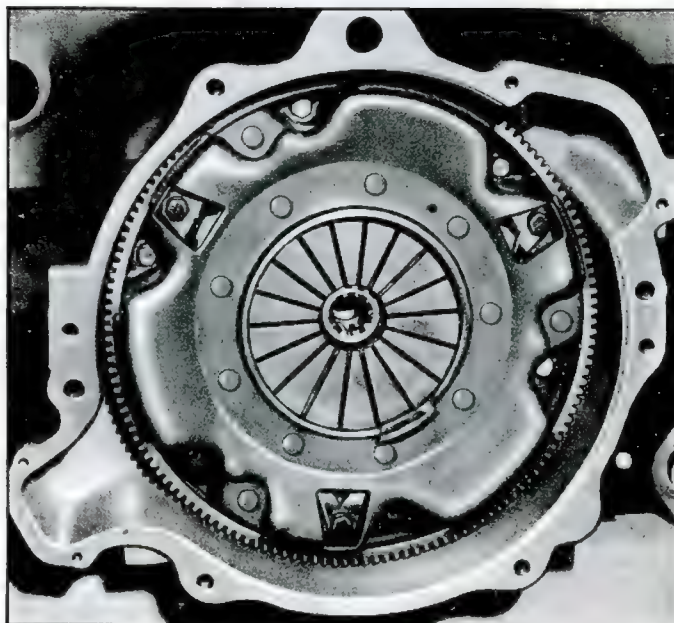

Fig. 7-5—Clutch Assembly Installed
6. Loosen the six clutch attaching bolts shown in Figure 7-5, one turn at a time, until clutch diaphragm spring pressure is released.
3. Install bolts and lock washers (fig. 7-5) in every other hole in cover assembly first, and pull down gradually until tight. Then install remaining 3 bolts.